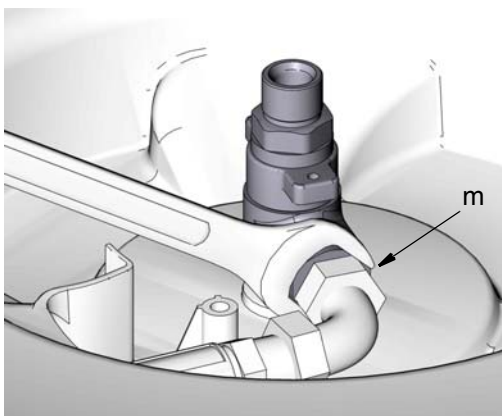

FIG. 19
1. Turn hose reel assembly over. Connect hose fitting (m) to swivel assembly. (FIG. 19).